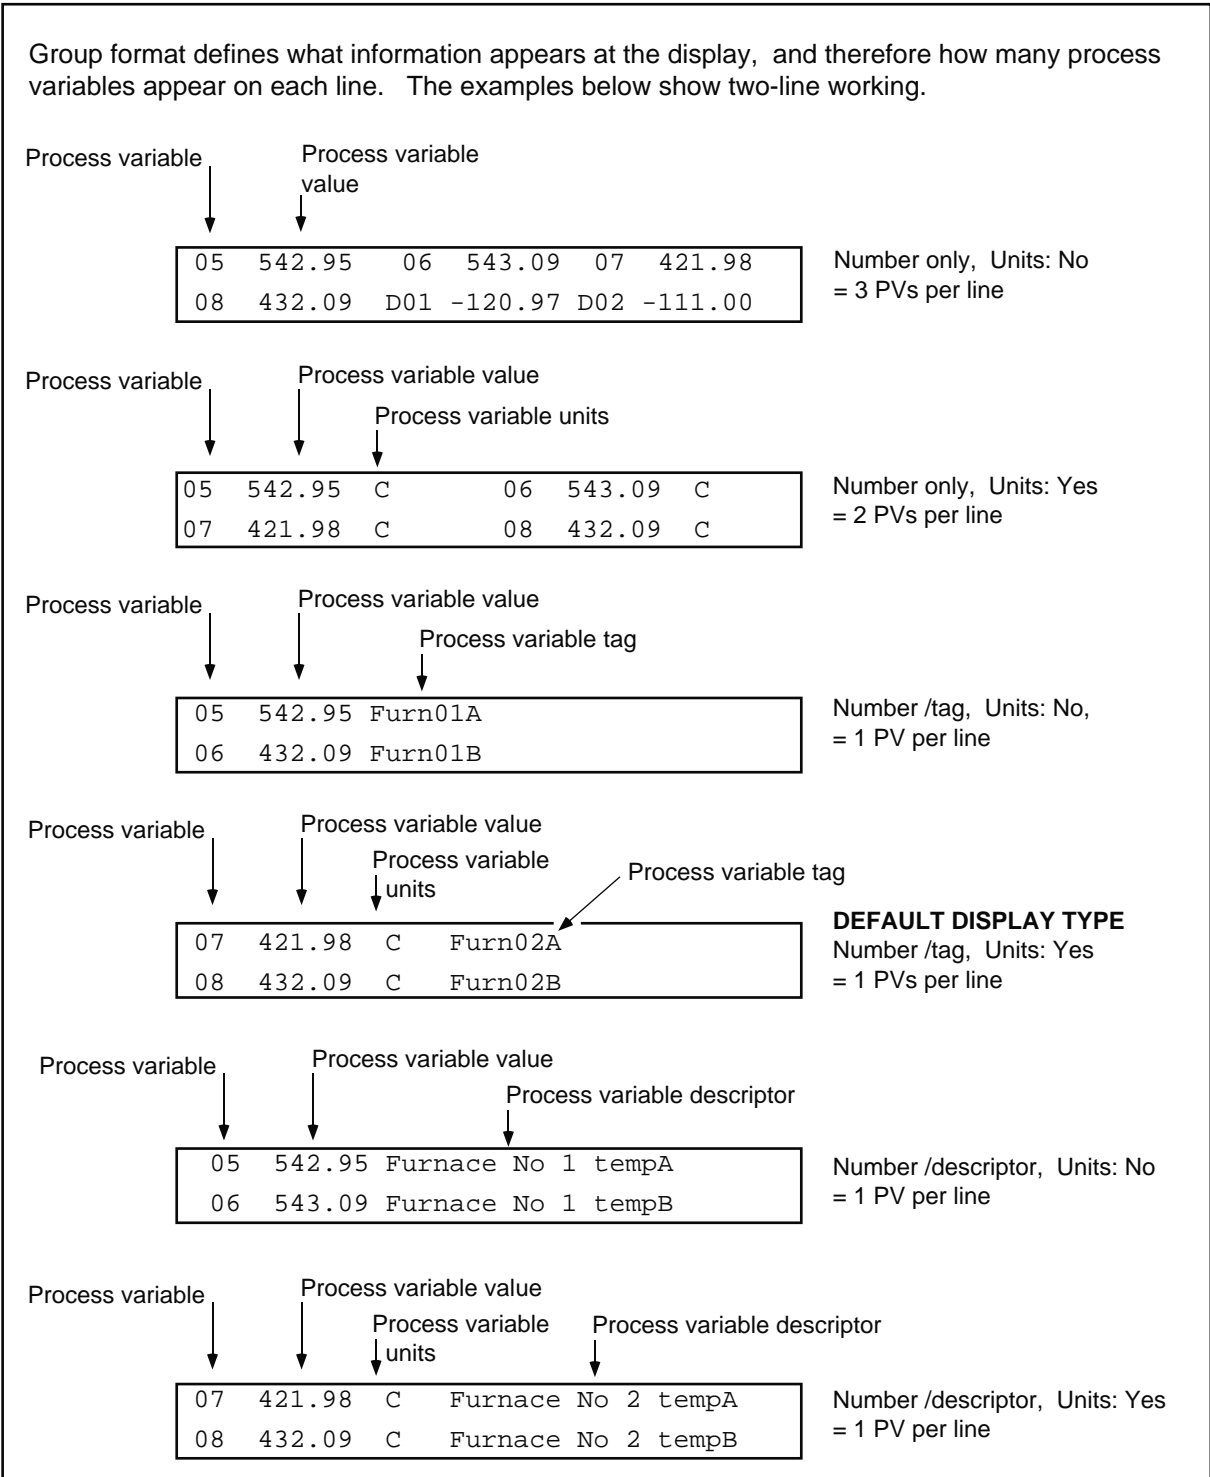

Figure 3.2.1a Numeric indication modes
- MODE** Operation of this key calls the 'Display mode / Group Select' page to the display. See figures 3.2.1a/b for an illustration of the different display modes available.
| Numeric | Up to three PVs can be displayed as digital values on each display line, depending on the format selected for the group. This group format (section 4.5) defines whether units and / or tags and / or descriptors appear alongside the value, and thus how many values can appear on each line (figure 3.2.1a). |